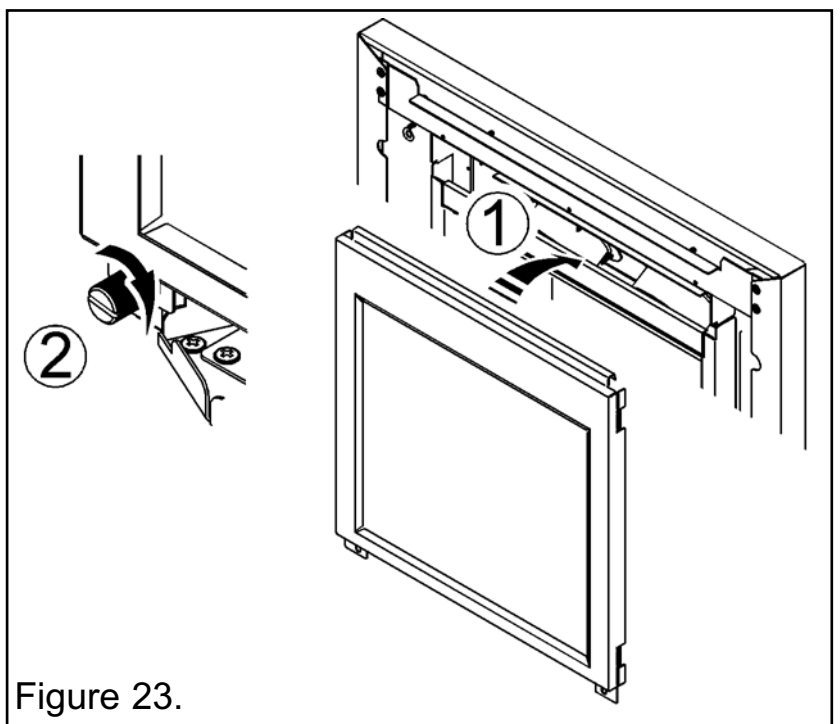

Figure 23.
1. Locate the window assembly as in figure 23.